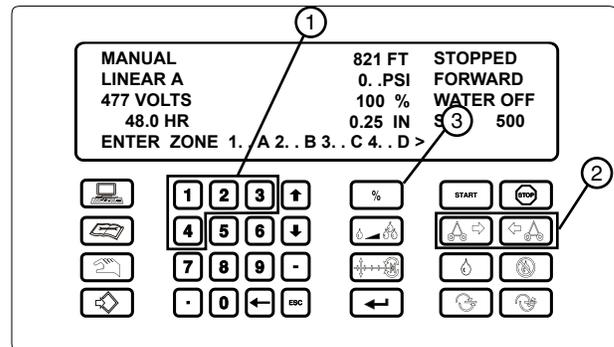

Figure 61-2 1. Numeric Keys 2. Direction Keys 3. Percent Key
Select a Zone 1=A, 2=B, 3=C 4=D. See Figure 61-2.
4. Select the direction of movement for the span to pivot. See Figure 61-2.
5. Press  to set the percent timer to the desired percentage. See Figure 61-2.